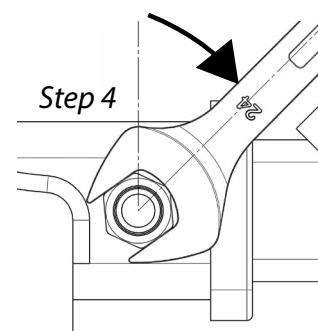

Fig 4. Tightening of Silent Anti-Rattle Hitch Pin Nut
STEP 4 Tighten HITCH PIN NUT by turning nut a further 1/8th of a turn in the clockwise direction using a 24mm spanner (Fig. 4).